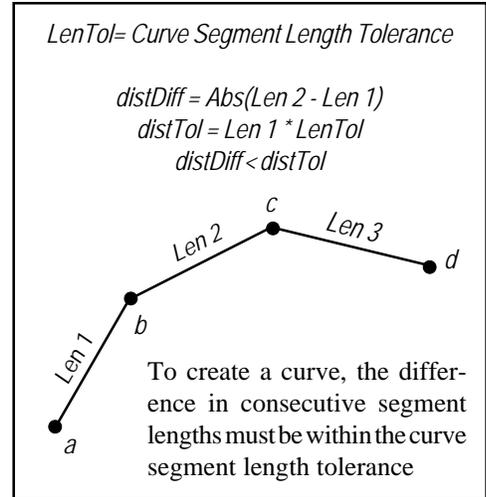

Figure 14 - Curve Segment Length Tolerance Parameter
- b. Shown in Figure 14 is a diagram illustrating how the Curve Segment Length Tolerance parameter is used